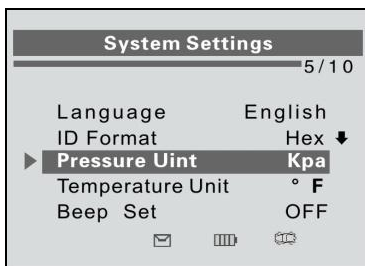

Figure 2.6
- 1) From **System Settings** screen, use the **UP/DOWN SCROLL** button to select **Pressure Unit**, and press the **Y** button. (Figure 2.6)